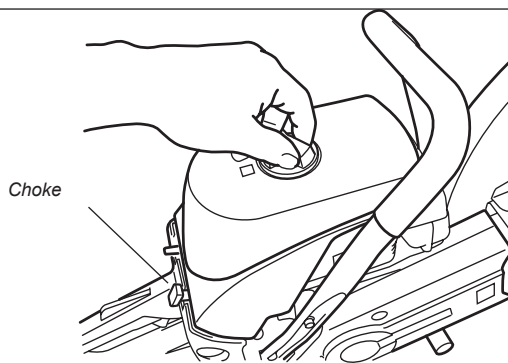

Figure 12
2. Unscrew the knob on the cleaner cover and remove the cleaner cover. See Figure 12.